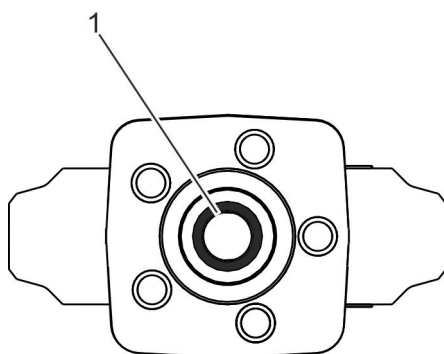

Fig. 8: Removing the gasket ring
6. ➤ Carefully remove the gasket ring (Fig. 8/1) from the body.